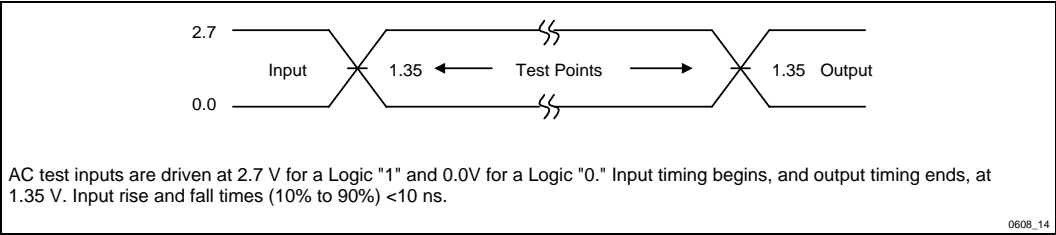

Figure 14. Transient Input/Output Reference Waveform for  $V_{CC} = 2.7\text{ V} - 3.6\text{ V}$
5. See Figures 14 through 16 for testing characteristics.
- See Figures 14 through 16 for testing characteristics.